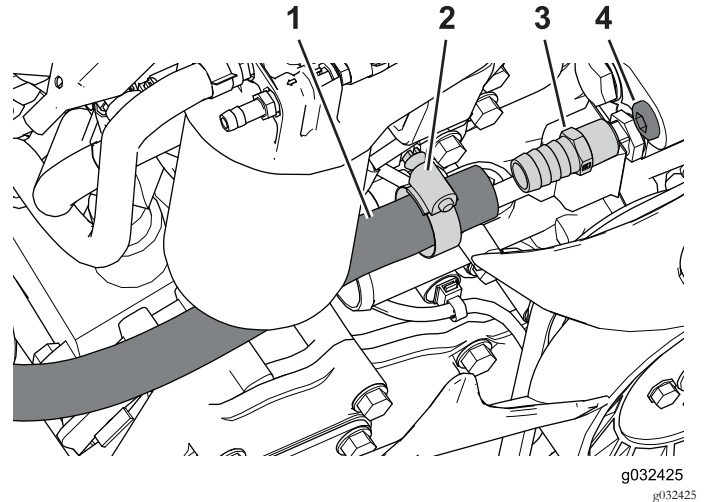

Figure 29
- Locate and remove the engine-port plug (Figure 29).
- Apply sealant to the male threads on the straight fitting; skipping the first thread (Figure 29).
- Slide the hose clamp over the hose end (Figure 29).
- Insert the hose over the straight fitting and secure it with the hose clamp as shown in Figure 29.